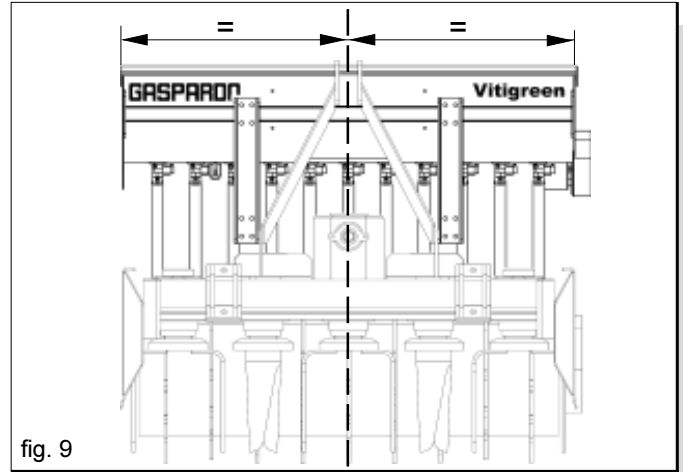

fig. 9
- 2) Using the four U bolts, fix the hopper support bar (2) to the supports (1), centring it on the axis of the implement (Fig. 9).